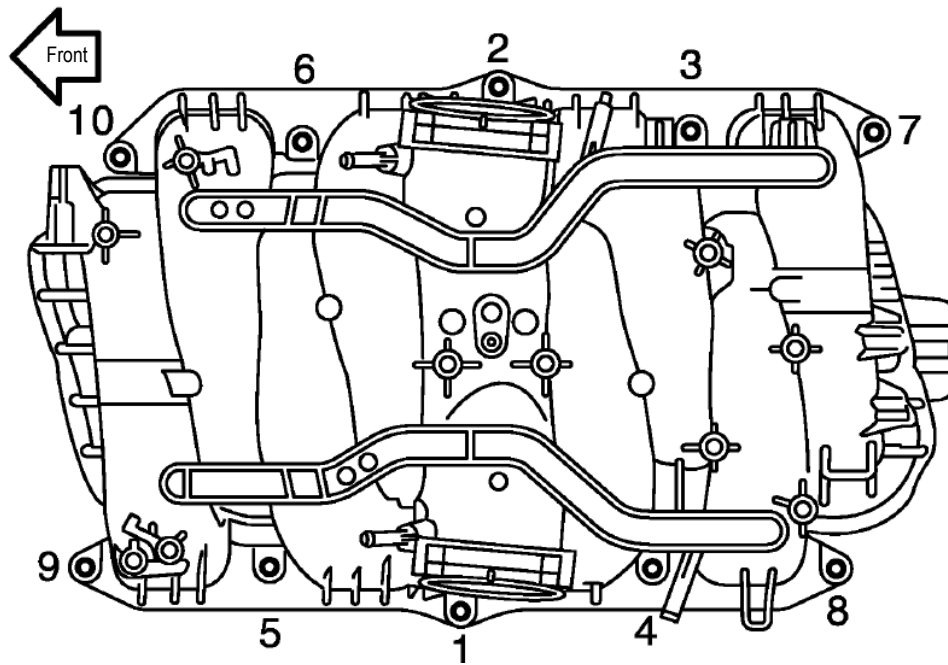

Figure 14m
18. Remove 10 bolts securing the intake manifold to the engine (see Figure 14m).